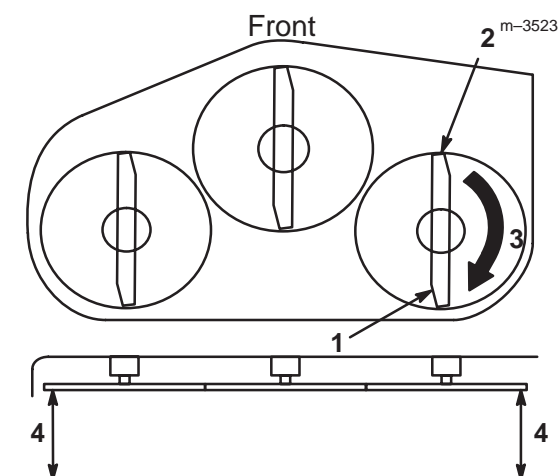
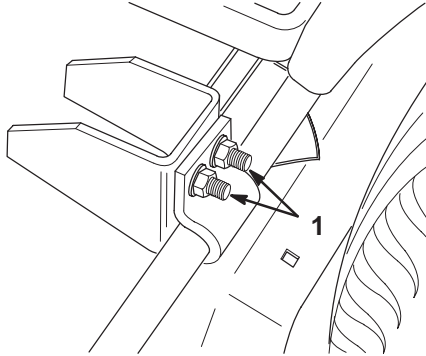

Figure 16
Figure 18
- Carefully rotate one of the blades so it is oriented front to rear (Fig. 16).
- Measure the distance from the front tip of the blade (Fig. 16) to the flat surface.
Equalize side-to-side cut by adjusting the two carriage bolts (Fig. 18) on the mower. Check the height of the blade at outside blade tips (Fig. 16).
6. Check the slope of one of the blades (Fig. 16).